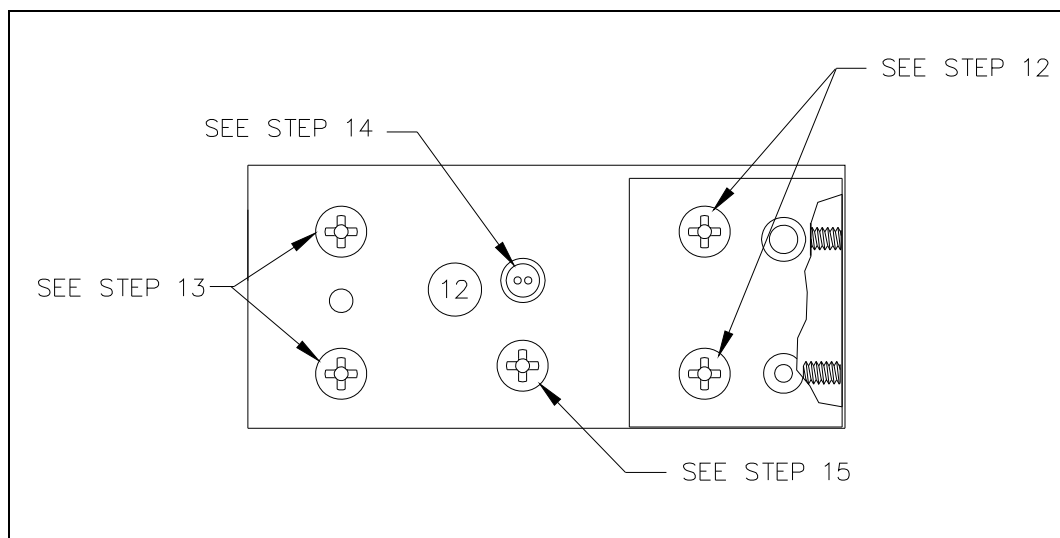

Figure 2.
12. Secure the chrome cradle on the right side with two long screws through the armored cord block. See Figure 2.
13. Secure the cradle on the left side with the two short screws. See Figure 2.
14. Thread the leads of the reed switch through the center top hole. See Figure 2.
15. Attach the hookswitch mounting block with the single screw. See Figure 2.